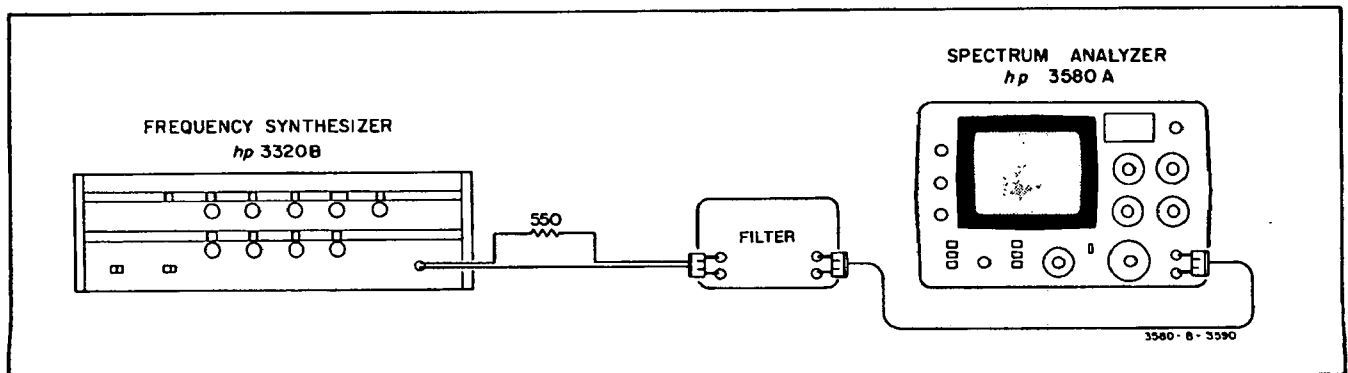

Figure 5-3. Spurious Response Test.
d. Connect the frequency synthesizer (use proper output impedance needed for the bandpass filter) to the input of the bandpass filter. Adjust the filter for a 5 kHz center frequency and adjust the synthesizer for a 5 kHz output. (For a 50 ohm source and the White 2640 filter, connect a 550 Ω resistor (± 10%) in series between the filter and synthesizer. This gives the 600 Ω source impedance required by the White filter (See Figure 5-3).
e. Connect the output of the filter to the input of the 3580A. Always terminate properly if required. (The White Model 2640 filter requires no output termination. See Figure 5-3).